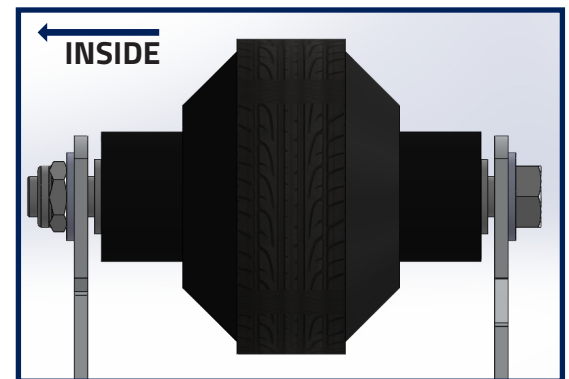

FIGURE 4A
- Your kit should come with eight (8) roller wheel assemblies, four (4) on each side. They should come assembled and ready to attach onto the chassis.
- Insert the roller assembly between the chassis plates. See **Fig 4A** for alignment of roller assembly. Use a 3/8" hex bolt to hold the roller in place. Use a wash and locknut to hold the bolt in place. Tighten the bolt until the sides are snug against the roller, but still able to spin freely.